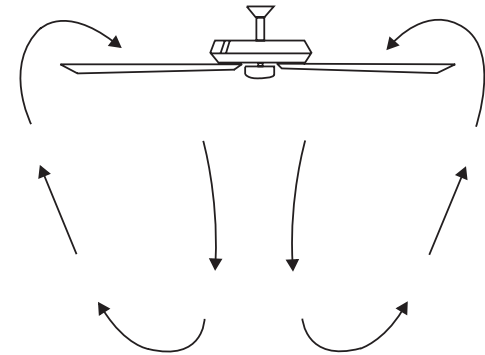

Fig. 22
**Warm weather** - Forward (counter clockwise) A downward airflow creates a cooling effect as shown in Fig. 22. This allows you to set your air conditioner on a warmer setting without affecting your comfort.